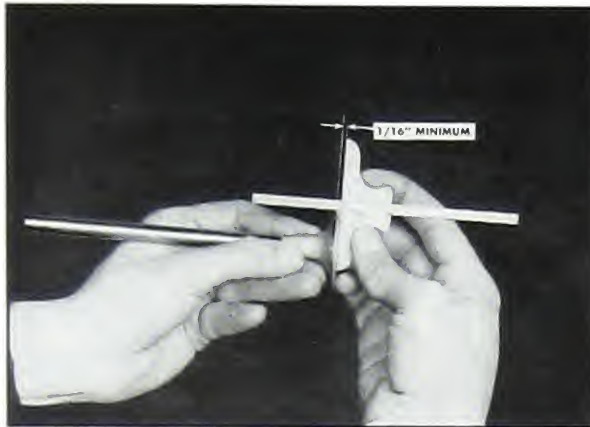

Fig. 3-19. Checking thickness of valve head rim
8. After grinding, check the rim thickness as shown in Fig. 3-19. If the rim is thinner than 1/16 inch there is danger of burning and cupping.